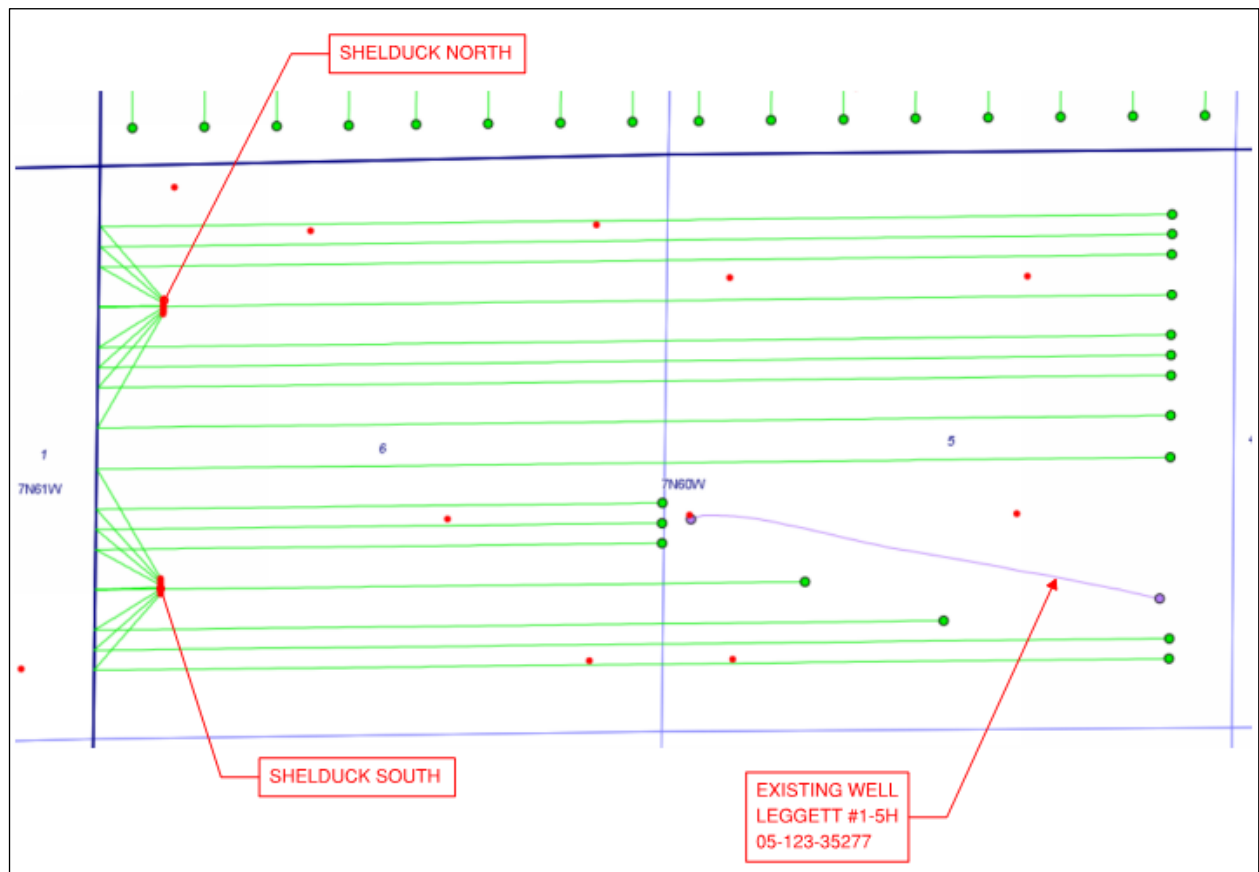

Figure 2: Permitted Development of Sections 5 & 6, T7N, R60W
Mallard is working diligently to create a development plan for our leasehold in this area that best protects the agricultural lands of Weld County, preserves Surface Owners property, and protects public health, safety, and welfare. In 2018, Mallard submitted permits to the COGCC to develop Sections 5 and 6 of T7N, R60W. At the time, this development was to occur using two (2) different surface locations, known as Shelduck South and Shelduck North, shown in Figure 2.